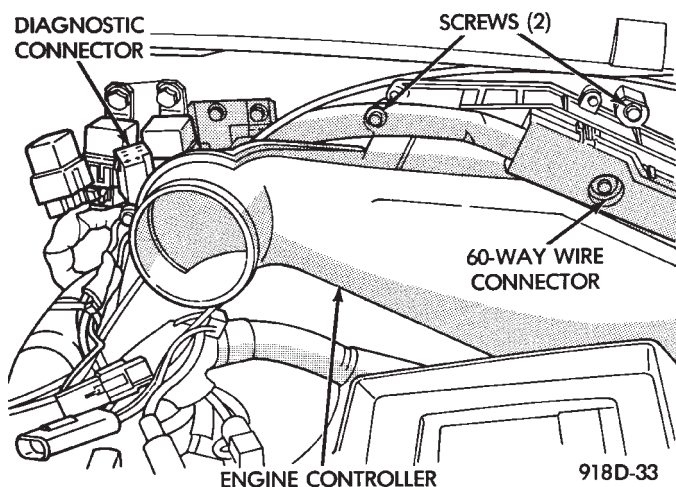

Fig. 1 Engine Controller
The engine controller is located next to the battery (Fig. 1).
- (1) Connect 60-Way electrical connector to Engine Controller (Fig. 1).
- (2) Install engine controller. Tighten mounting screws.
- (3) Install battery.
- (4) Install air cleaner duct or air cleaner assembly.